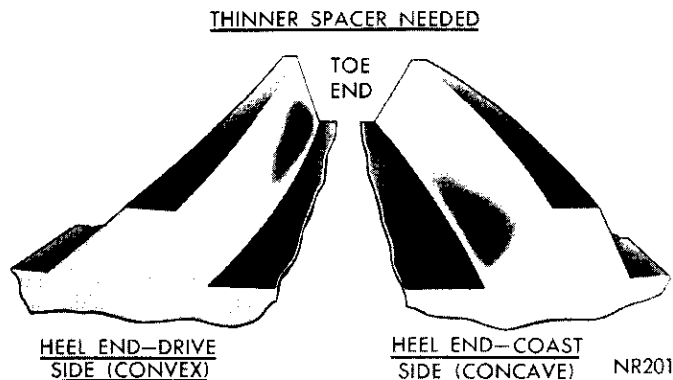
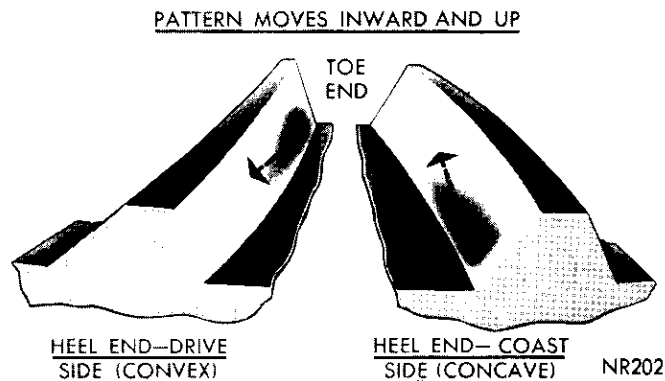

Fig. 47—Incorrect Tooth Contact Pattern (Decrease Shim Pack Thickness)
Fig. 48—Effect on Tooth Contact Pattern as Shim Pack Thickness is Decreased
(4) If after observing the contact pattern and you find it resembles that in (Fig. 47), the drive pinion is too close to the ring gear, the pattern will appear low on the toe on drive side and low heel contact on coast side. To correct this type tooth contact pattern, decrease the thickness of shim pack located behind the rear pinion bearing cup (Fig. 48), which will cause the low toe contact on drive side to raise and move toward the heel; low heel contact on coast side will raise and move toward the toe.